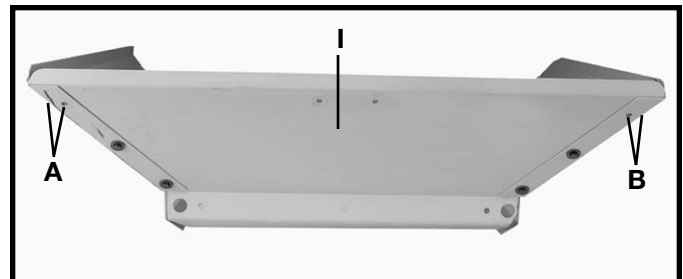
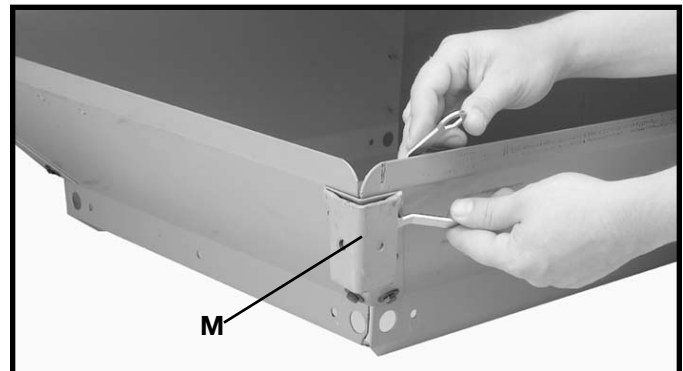

Fig. 13
Fig. 14
3. Attach the curtain frame plates (M) Fig. 14, to one of the skew boards (I) Fig. 13, in holes A & B. Insert a 1/4-20x5/8" flange screw through the curtain frame plate (M) Fig. 14, and skew board and thread a 1/4-20 flange nut onto the screw and tighten securely. Repeat this process for the three remaining holes in the two curtain frame plates and skew board as shown in Fig. 14. **NOTE: INSERT A HEX FLANGE SCREW THROUGH THE FOUR REMAINING HOLES OPPOSITE THE SKEW BOARD THAT THE CURTAIN FRAME PLATES WERE ATTACHED TO, AND THREAD A 1/4-20 FLANGE NUT ONTO THE HEX FLANGE SCREWS AND TIGHTEN SECURELY.**